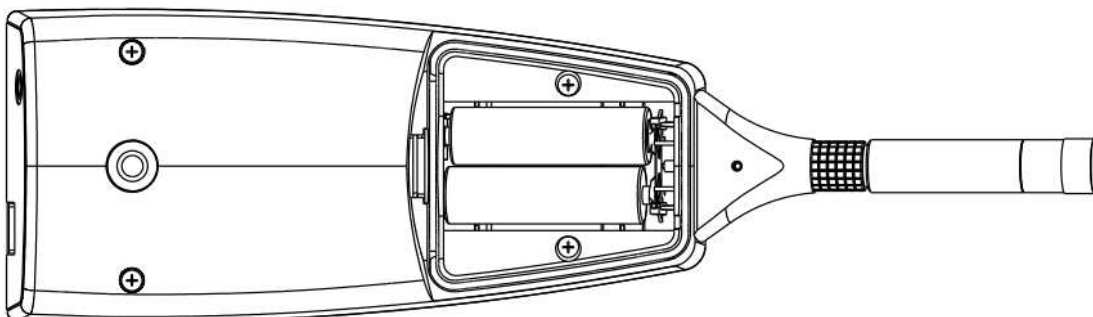

Figure 1.1: Open battery compartment
The battery compartment is located on the back at the bottom of the device (figure 1.1).
- Insert the new batteries paying attention to the polarity (figure 1.1)